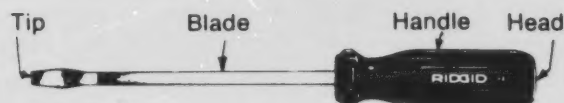

Figure 1-51. Screwdriver Components
- c) Figure 1-51 defines the components of a screwdriver: